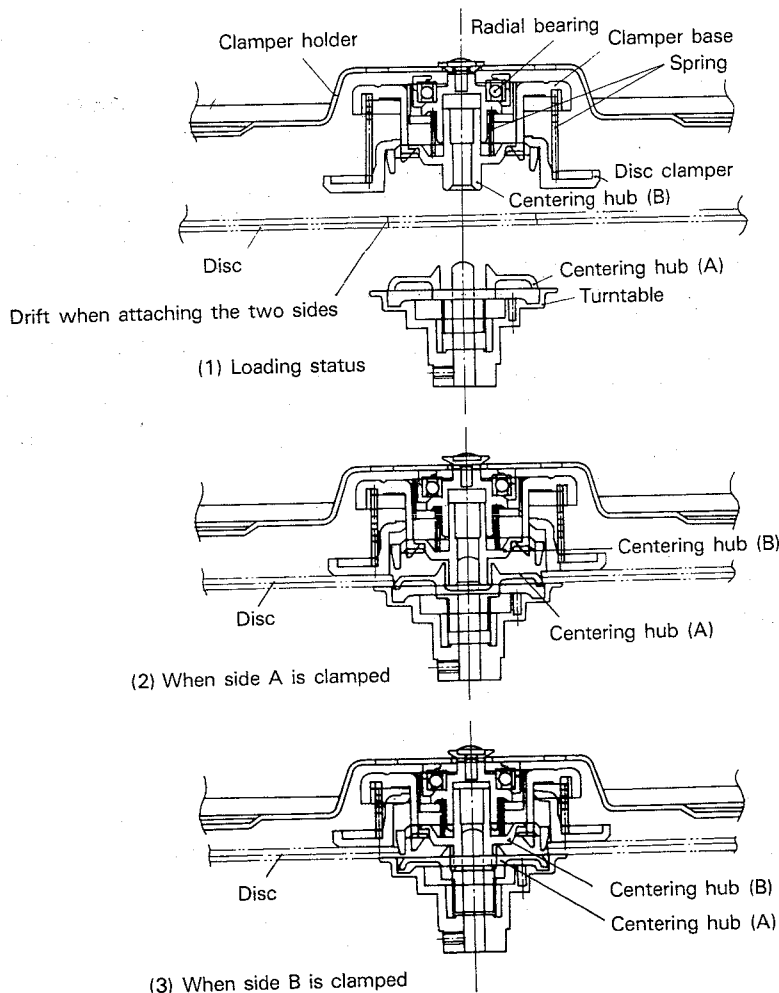

Fig. 12-2-1 Disc clamping mechanism with side A/B independent centering system
In the side A/B independent centering system, the centering hub (B) is pointed inside the disc clamber. Fig. 12-2-1 shows its structure and the operation. In status (2) when side A is clamped, in the same way as in the conventional system, the center of side A is adjusted to the center of the spindle motor by applying the tapered section of the centering hub (A) to the inside of the center hole on side A of the disc so that the disc is clamped to